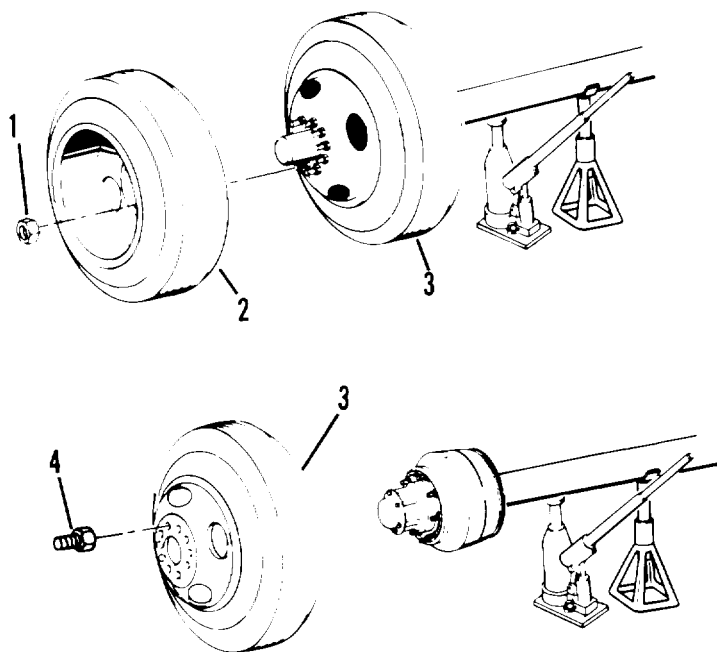

Figure 4-39. Tire and wheel removal.
- (1) Set chock blocks opposite the set of wheels being removed.
- (2) Loosen, but do not remove ten lug nuts (1, figure 4-39).
- (3) Jack up axle until wheels (2 and 3) are clear of the ground.
- (1) Install inner wheel (3, figure 4-39) and ten lugs (4).
- (2) Install wheel (2) and ten lug nuts (1). The valve stem must be 180 degrees from the valve stem of the inner wheel. Torque lug nuts to 400-450 lb ft (542-612 Nm).
- (3) Remove jack stands and lower semitrailer.
- (4) Remove chock blocks and stow in brackets.